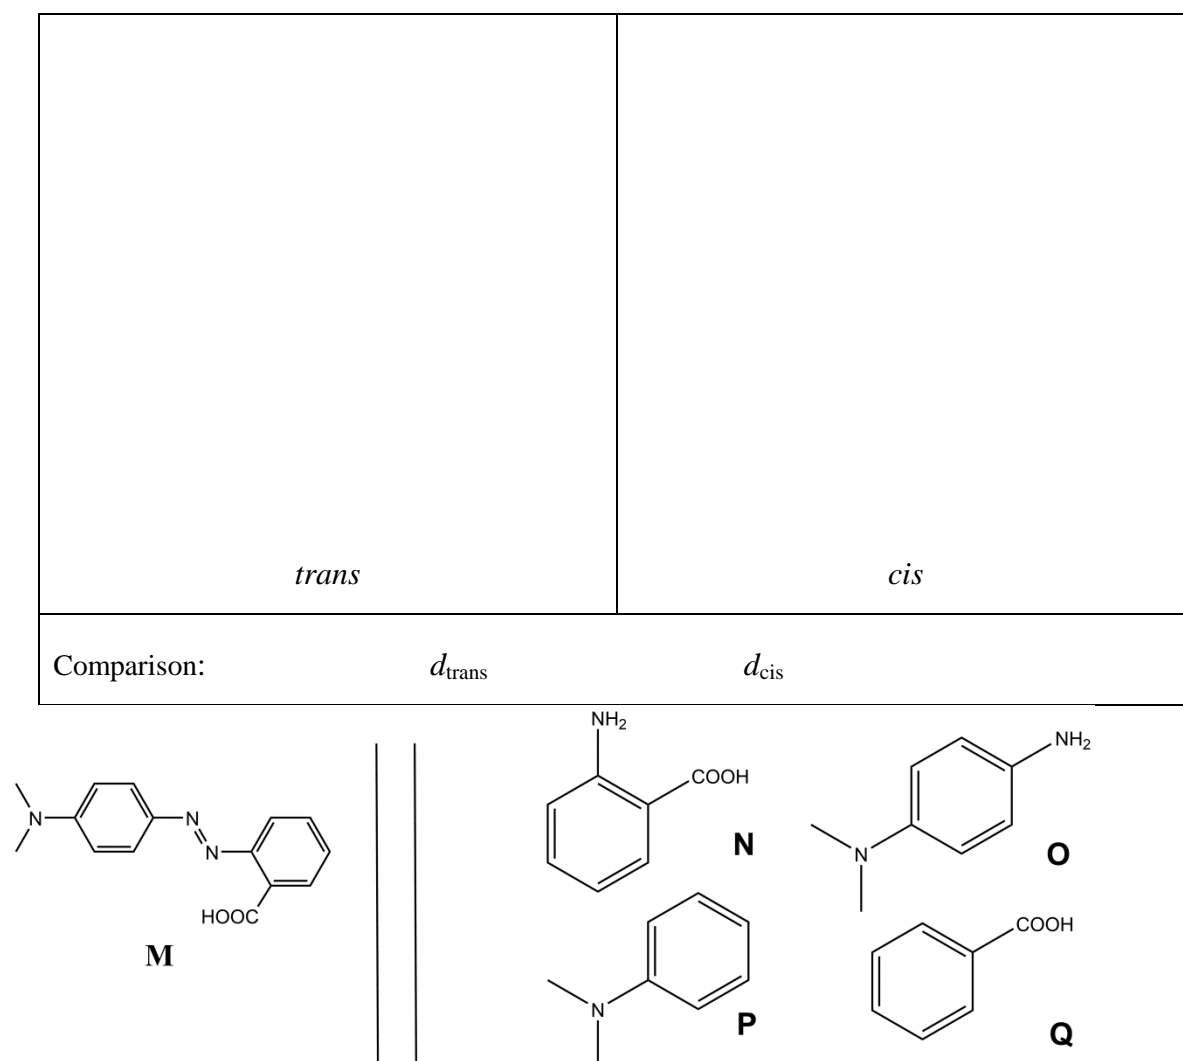

Fig. 1 – Possible reactants for the synthesis of **M**.
- M** can be synthesized in two steps from simple reactants (Fig. 1). **Choose** among the suggested reactants (**N** to **Q**) the ones that can provide **M** with very high regioselectivity. Sodium nitrite ($NaNO_2$) in cold aqueous hydrochloric acid is used as reagent for the first step of the synthesis.